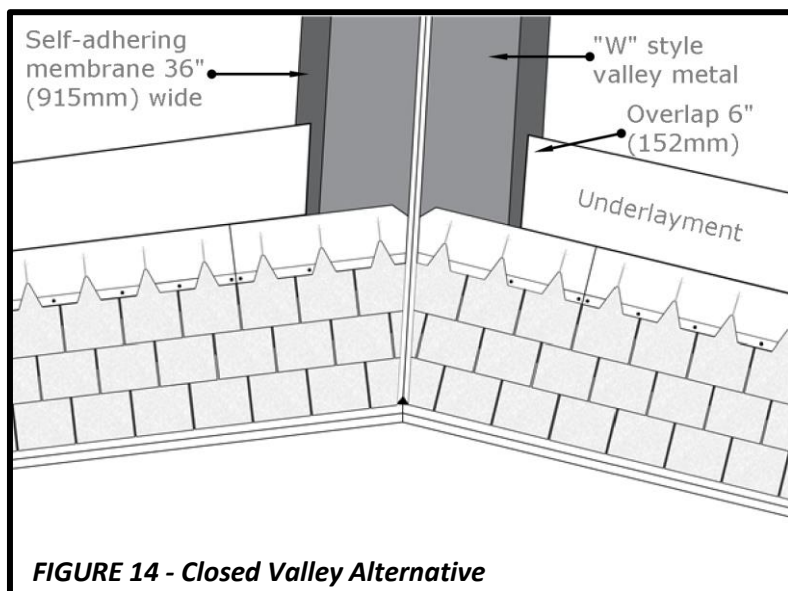

FIGURE 14 - Closed Valley Alternative
- When trimming the shingles at the valley, trim the shingles flush with the "W" fold. See **Figure 14**.